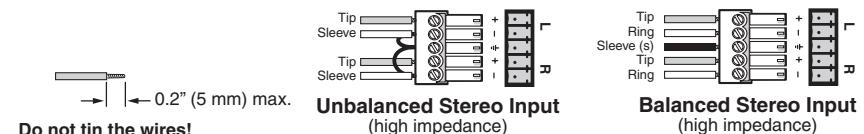
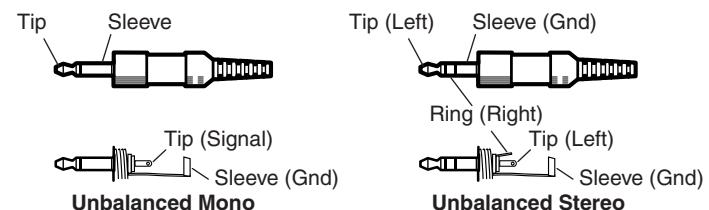

Figure 8 — Captive screw input connector wiring
Figure 9 — Phono audio connectors
- ⑤ Audio Input connector — Connect a balanced or unbalanced audio input to this 3.5 mm, 5-pole captive screw connector. Connectors are included, but you must supply the audio cable. See figure 8 to wire a connector for the appropriate input type and impedance level. High impedance is generally over 800 ohms.
When making connections for the MDA from existing audio cables, see figure 9. A mono audio connector consists of the tip and sleeve. A stereo audio connector consists of the tip, ring and sleeve. The ring, tip, and sleeve wires are also shown on the captive screw audio connector diagrams, figure 8 and figure 10.